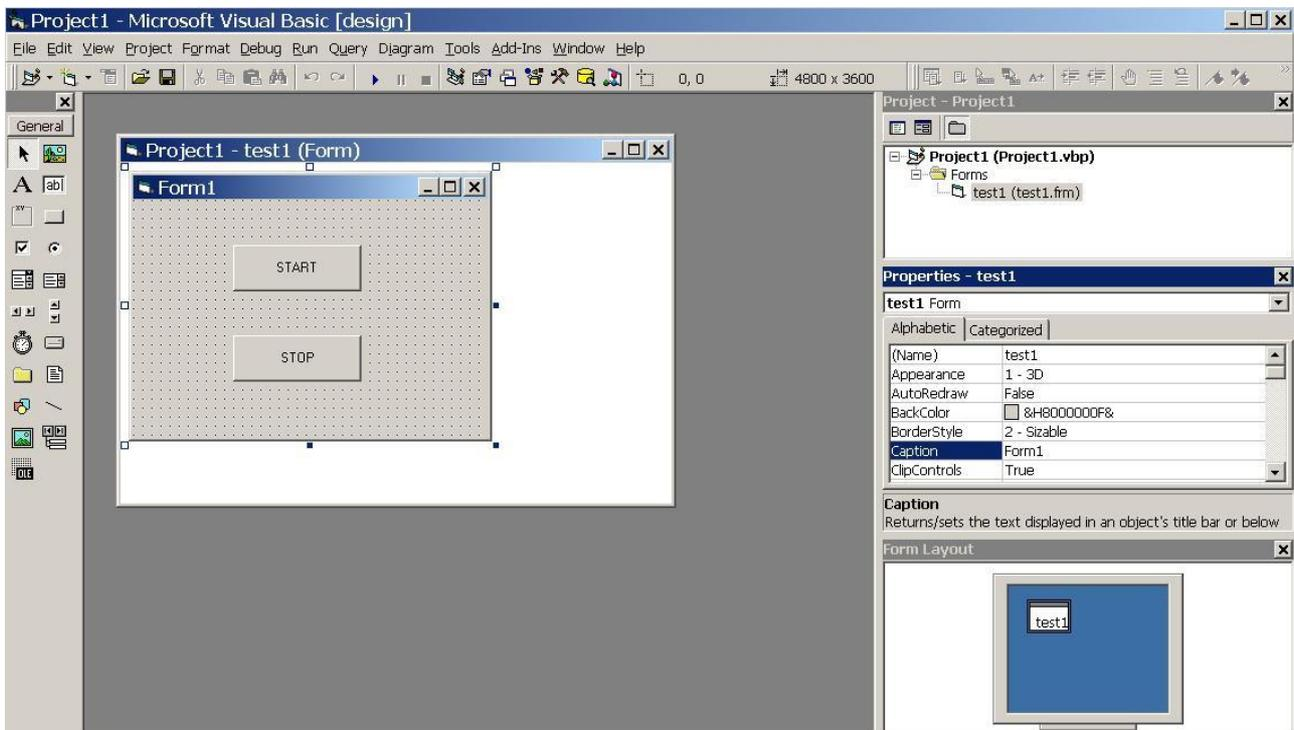

Figure 5-1 Creates a new form
- (1) Create a new folder, such as E:\test1;
- (2) Open Visual Basic 6.0;
- (3) Create a new project with “Standard EXE”, add 2 buttons “START” and “STOP” in the form. Set “START” button name as CB_Start, and “STOP” button name as CB_Stop. See figure 5-1;